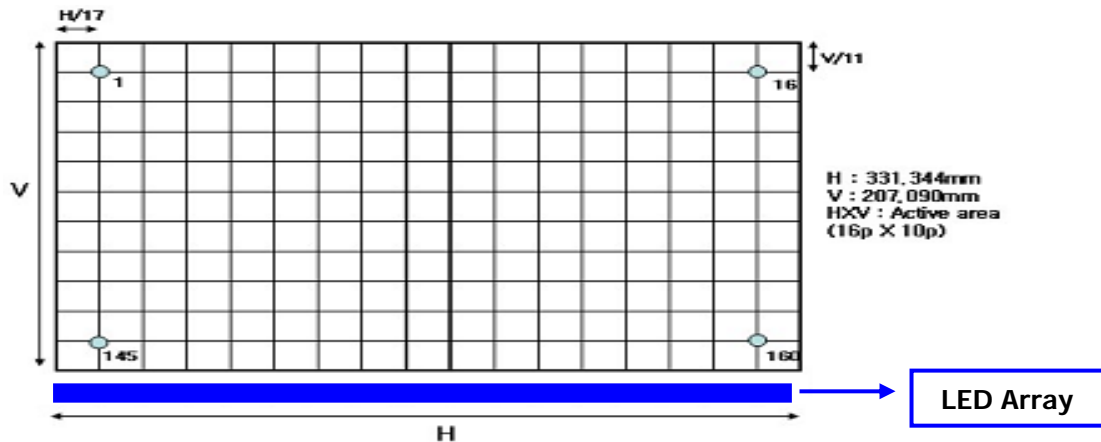

FIG. 3 Response Time
| Response time | Tr _R + Tr _D | — | — | 16 | 25 | ms | Fig 3 |
2. Response time is the time required for the display to transition from white to black (rise time, Tr_R) and from black to white(Decay Time, Tr_D). For additional information see FIG 3.